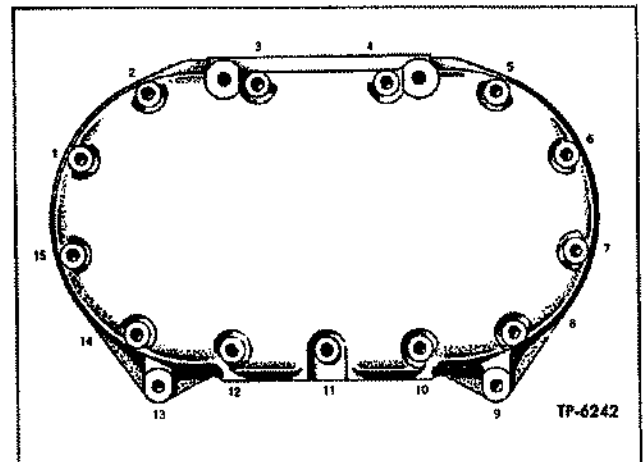

Figure 68—Balance Weight Cover
2. Position new gasket to front end plate. Install cover and secure with bolts and lockwashers. Refer to figure 68 and tighten bolts in sequence indicated. If cylinder head is removed, leave top bolts loose to prevent interference when installing head.